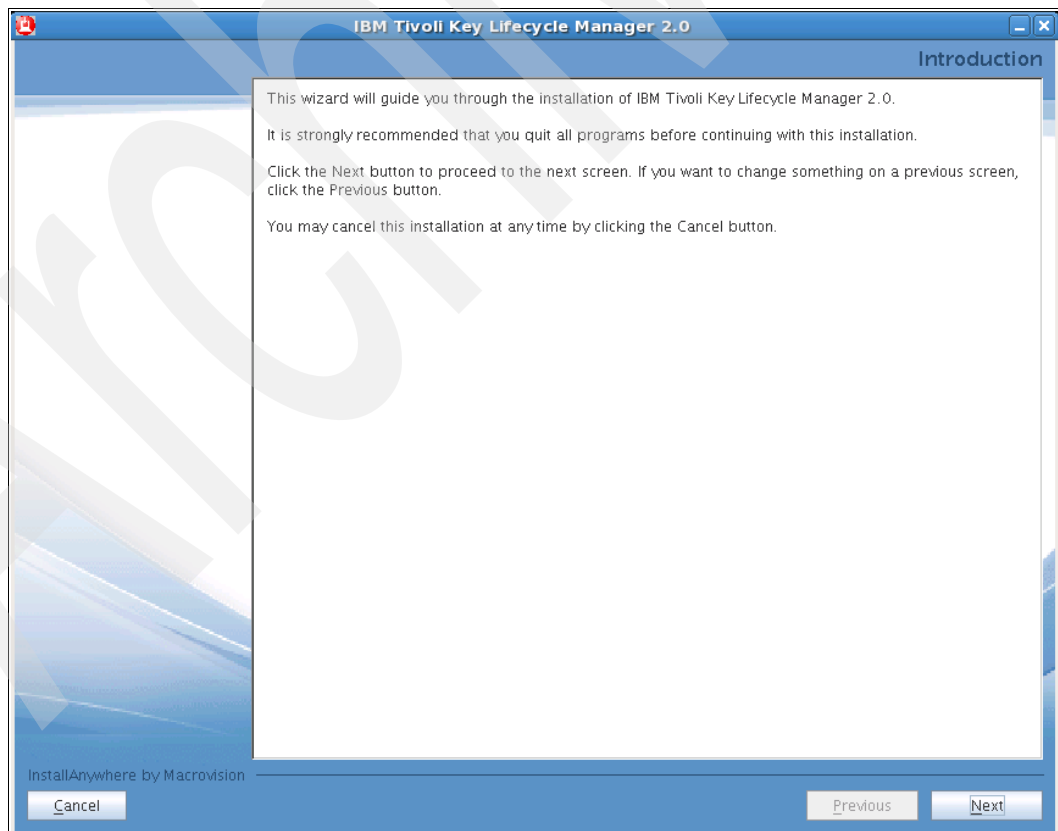

Figure 7-3 TKLM wizard
6. A wizard guides you through TKLM v2 installation, as shown in Figure 7-3. Click **Next**.